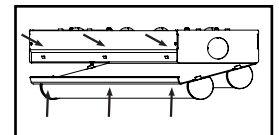

Fig. 4
9. Reinstall channel cover by hooking one side around channel and then pushing other side up and over the emboss. To prevent bending of channel cover, start at the middle of fixture and work your way to each end. See Fig. 4.